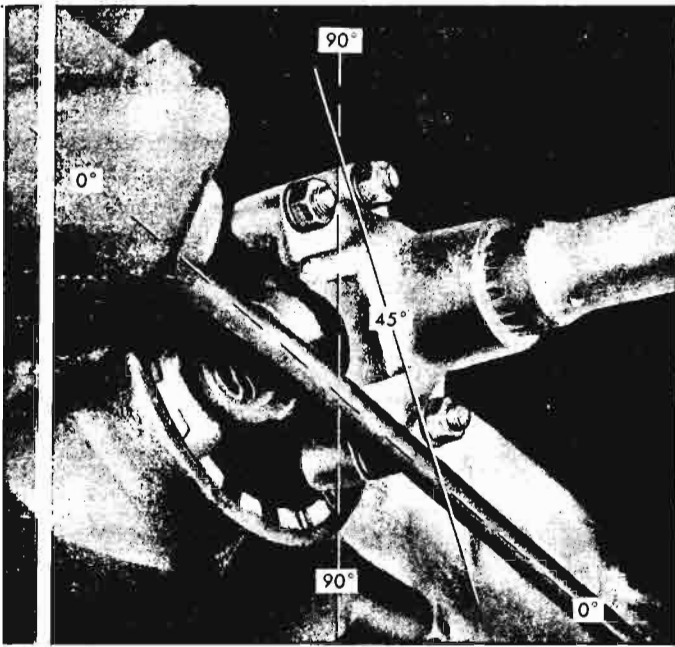

Fig. 3-24—Rear Axle Positioning for Spring Removal
- Position the axle shaft as shown in Figure 3-24. The side surface of the yoke must be at 45° to the centerline of the axle case. This must be done to allow the axle shaft and control arm to swing down far enough to remove spring. This will keep the yoke on universal joint from hitting the axle case or the side bearing adjusting nut.